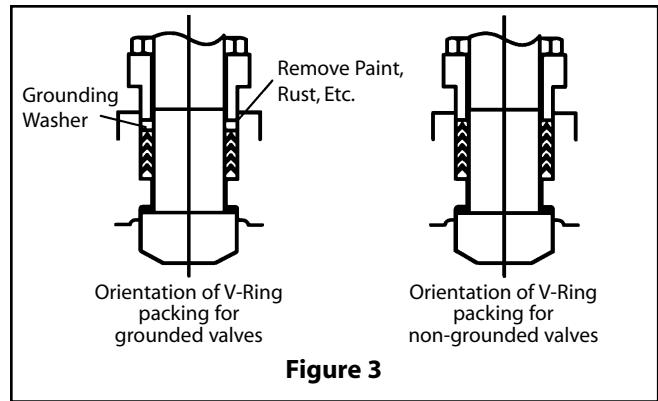
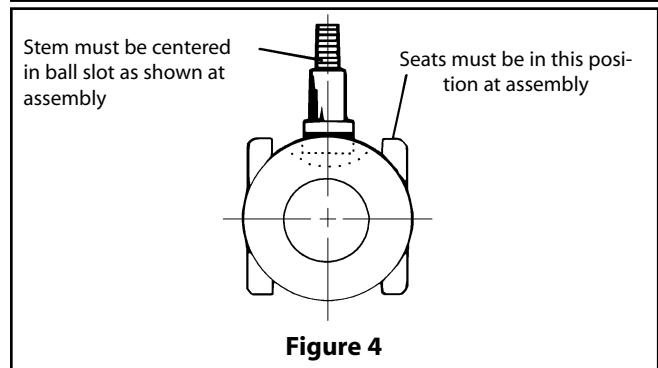

Figure 3
Figure 4
- Slide one valve seat (7) sideways into the body (1) to below the stem bore, and tilt it into place so that the proper surface (**see Figure 4**) will be adjacent to the ball (3), being careful not to cut or scratch the seat.
- From the inside, insert the thrust bearing (70), secondary stem seal (71), and the second of two thrust bearings into the stem bore.
7. Insert the stem (5) through the insert end of the body (1), being careful not to scratch the thrust bearing, and press it gently up into the stem bore until resistance is felt from the thrust bearing. Holding the stem in place from the bottom, insert the packing/v-ring set (69) (**See Figure 3 for proper v-ring orientation**), over the stem (5). If valve is to be statically grounded, remove one middle v-ring, replace the header ring and place grounding washer on top.
8. Place compression Plate (9) over studs (14). Place a stop bushing (37) and a bonnet stud nut (18) on each bonnet stud and tighten nuts alternately so that the compression plate (9) remains parallel with the body bonnet. Tighten down the nuts until the packing/v-ring set is fully seated, then tighten the nuts an additional 1/4 turn.
10. Place the valve in a vertical position, insert end up, on a clean surface such as a folded rag or a piece of cardboard. Place the spring (36) in the hole in the bottom of the stem (5). Insert the ball (3) rotating it onto the stem (5) in the closed position, being careful not to dislodge the spring from the stem. If necessary, turn the stem blade to align with the ball slot. Make certain that the stem blade is in the middle of the ball slot, i.e., equal distance from the ends of the slot. Rotate the ball if necessary. (**See Figure 4**.)
11. Place the second seat (7) into the insert (2) with the proper surface adjacent to the ball.
12. Insert the body gasket (65) into the body, and gently press it into the groove.